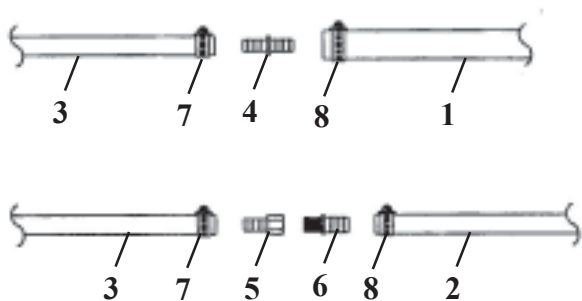

Figure 9
15. Upon returning to shore, attach the tubing from each diffuser assembly to the high temperature outlet hose coming out of the compressor cabinet and secure with the hose clamps provided. See Figure 9 for the proper coupling configuration.